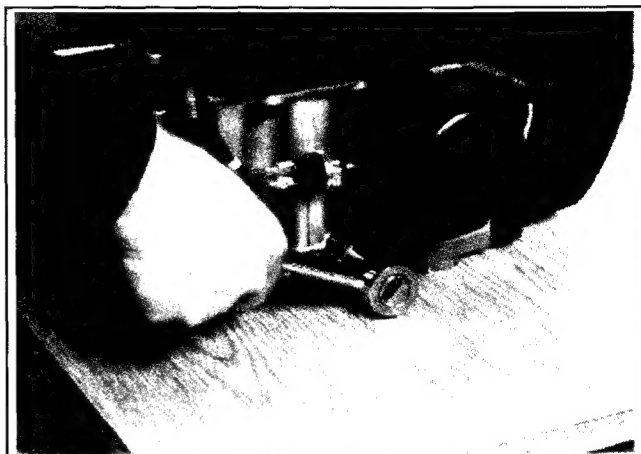

Figure 11-59. Reinstalling Oil Drain Plugs.
1. Install oil drain plugs and securely tighten. See Figure 11-59.